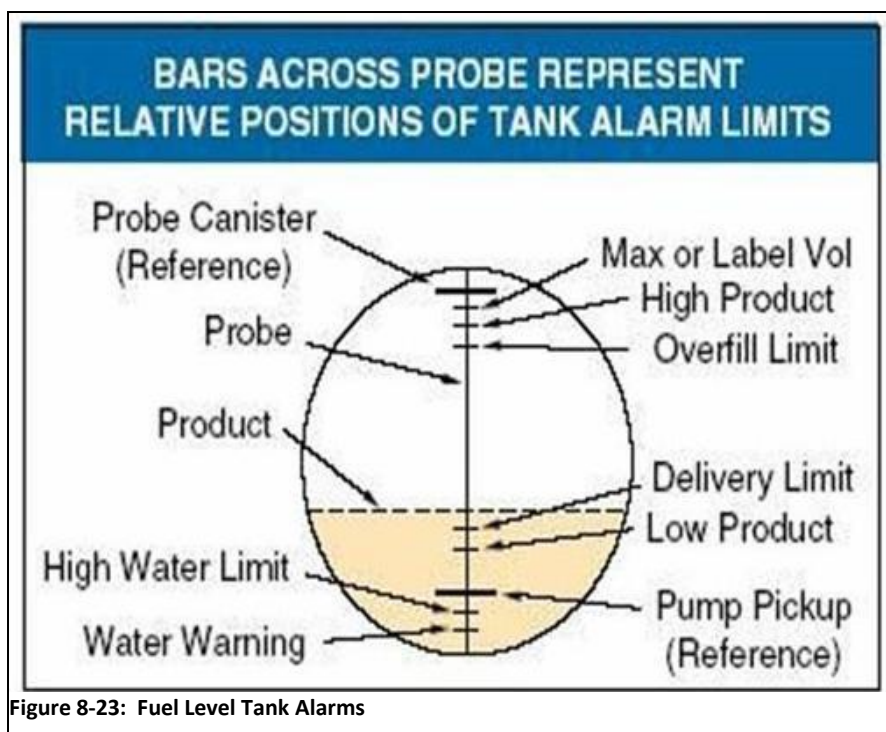

Figure 8-23: Fuel Level Tank Alarms
- An overfill condition exists when, during a fuel drop, the gasoline level in the UST exceeds the Overfill Alarm setting, which is 90% capacity of the UST. **See Figure 8-23.**